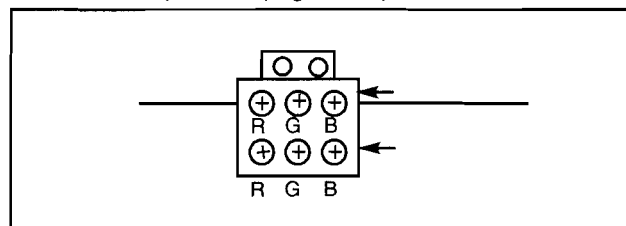

Figure 23. Focus Pack
4. Adjust the Red, Blue and Green focus VR on the focus block for best focus of overall picture of each CRT. (Figure 23)
1. Cover the Red and Blue CRT, projecting Green only. The electrical focus controls are located on the front. Adjust the Green Focus VR for best focus of overall picture. (Figure 23)